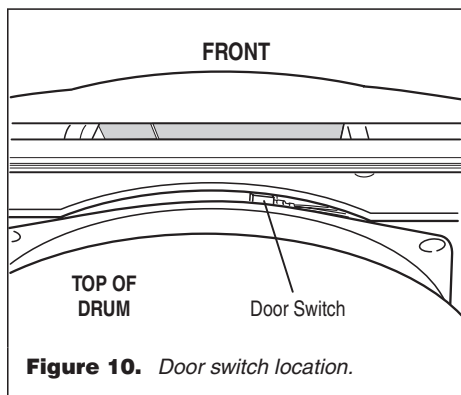

Figure 10. Door switch location.
- If any of the above conditions are not met, or if one of the dryer model codes listed above is displayed when the door is closed, check that the wires between the door switch and machine control electronics are connected. See figure 10, page 7 for switch location; and see Accessing & Removing the Electronic Assemblies, page 7.